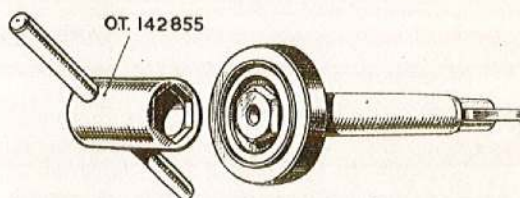

Fig. 20. Special spanner for removing servo piston nut
4. If the securing nut has been removed for any reason, (*para. 50 and fig. 20*) scrap and renew the tab-washer, and examine the threads of the nut for damage.
5. Locate the tab-washer on the base of the control piston, its tab locating with the slot in the piston-rod and control piston, and insert and tighten the hexagon-head screw using the special box spanner OT.142855 (fig. 20). When the screw is tight, carefully lock the already slightly upturned tip of the tab-washer against the flat side of the screw.